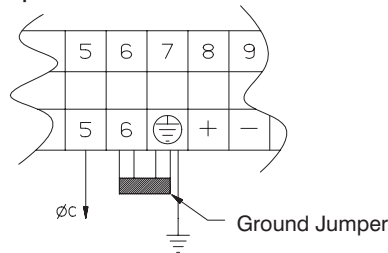

**Figure 36. Power Cable Terminal Blocks**
7. Remove the I/O access plate and connect the wiring to the terminal block according to the following table and Figure 36 for the UPS output. Use the conduit plate for conduit landing.
10. The UPS is factory-set with the output neutral connected to the ground in a TNS configuration (see Figure 36). If you want to operate the UPS in an IT configuration: